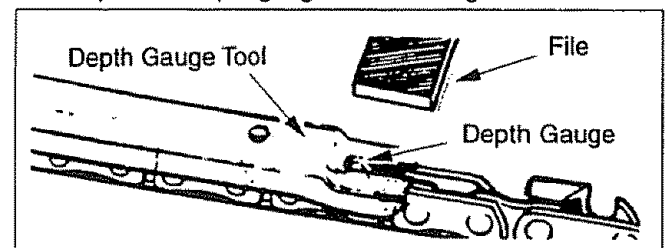

Figure 31
## SHARPENING CHAIN (Fig. 31, 32, 33, 34, 35, 36 & 37)
- To check depth gauge, place gauge tool on cutter. If the depth gauge projects above the tool, then file it level to the top of the depth gauge tool. See Figure 31.